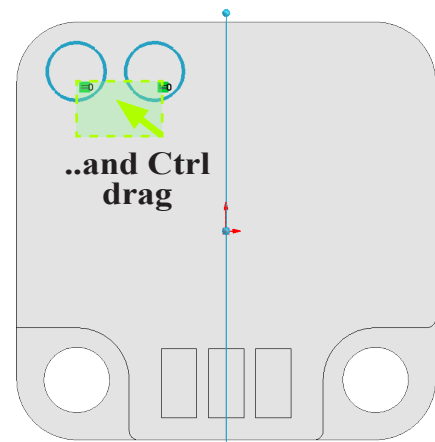

Fig. 61
Step 9. **Ctrl drag** a selection to **select both circles**, **Fig. 61**.